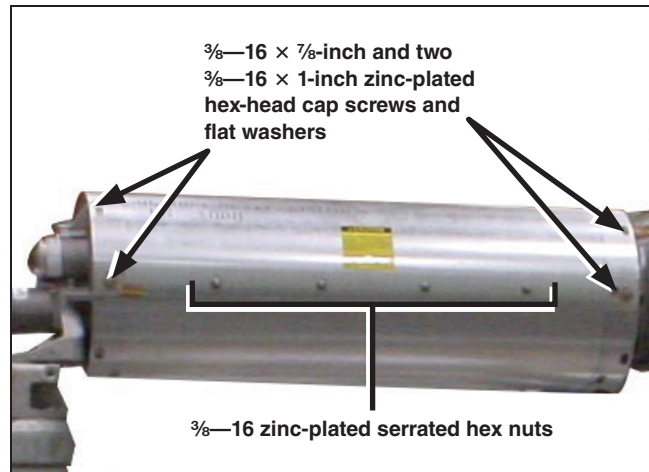

Figure 22. Removing the interrupter container.
- STEP 1.** Remove and discard the $\frac{3}{8}$ -16 zinc-plated serrated hex nuts which run the length of the container. See Figure 22. Remove and discard the $\frac{3}{8}$ -16 \times $\frac{7}{8}$ -inch and two $\frac{3}{8}$ -16 \times 1-inch zinc-plated hex-head cap screws and flat washers which attach the upper container-half to the coupling end casting of the interrupter. Also remove and discard the $\frac{3}{8}$ -16 \times $\frac{7}{8}$ -inch and two $\frac{3}{8}$ -16 \times 1-inch zinc-plated hex-head cap screws and flat washers which attach the upper container-half to the indicator end casting of the interrupter.